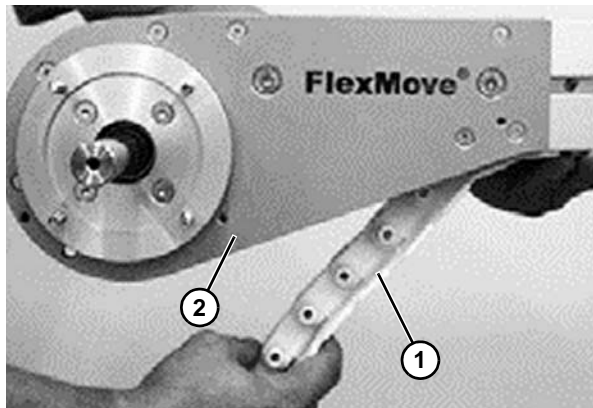

Figure 53
1. Insert the chain (**Figure 53, item 1**) into the underside of the drive unit (**Figure 53, item 2**). Make sure the chain will be moving in the correct direction, as indicated by the arrow (**Figure 54, item 1**) located at the side of all chain links.